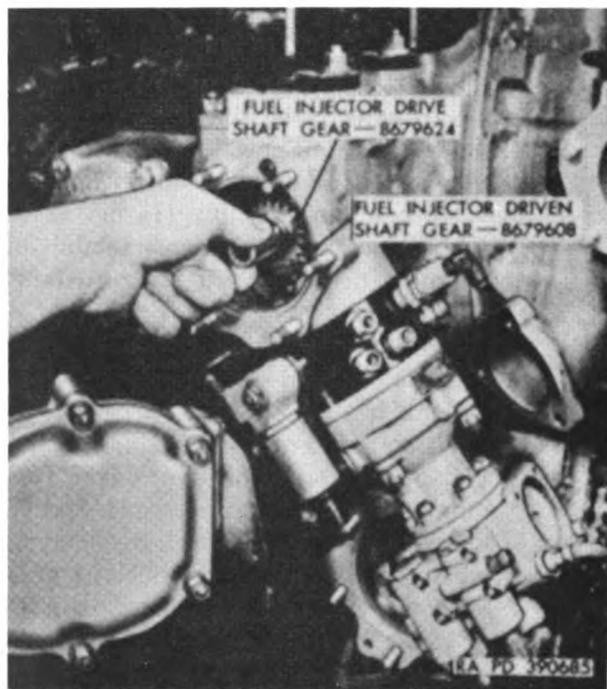

Figure 185. Timing fuel injector pump to engine.
- (8) Install fuel injector drive shaft gear (W, fig. 122) through same opening, engaging splines of drive shaft gear with splines on magneto driven shaft gear assembly and teeth on drive shaft gear with teeth on driven shaft gear as shown in figure 185.